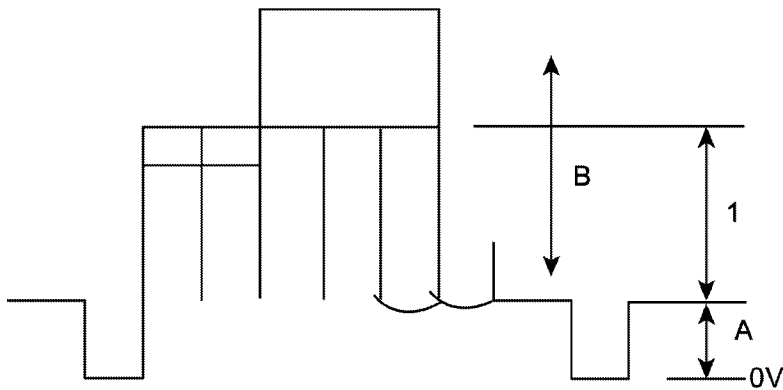

Fig. 4
6. Set (A) to $2.3 \pm 0.2V$ by BRT (CHK2) at measurement point TPL 2 Fig. 4.
1. Connect oscilloscope probe to TPL 2 (G OUT) with $10k\Omega$ series resistor and adjust Contrast so that (B) as in Fig. 4 is $2.6 \pm 0.1V$.
2. Adjust "Sub Colour" so that waveform as in Fig. 4 (1) $2.5 \pm 0.1V$.